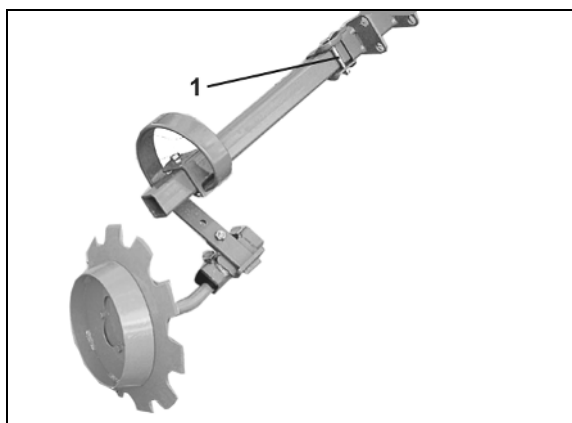

Fig. 98
- The machine working width (Fig. 98/1)
- Fine seed types, e.g. rape (Fig. 98/2)
- Grain and pulses (Fig. 98/3).